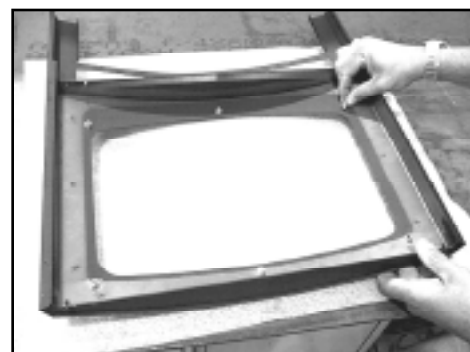

Figure 20.4
6. Hold the trim ring in place and turn the face over to expose the back side. **Figure 20.4.**